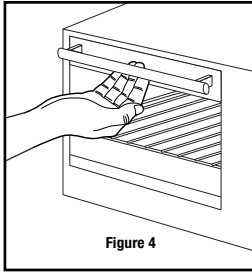

Figure 4
Step 1: Grab the center of the handle underhanded with fingertips (See Figure 4).